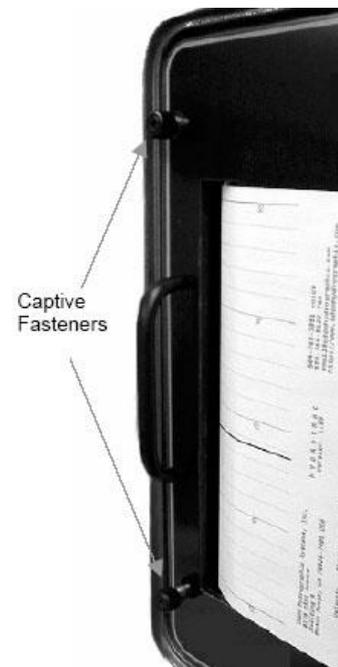

Fig. 3-5 Panel Release
- C. Open the chart panel by unscrewing the two captive fasteners at the left of the front panel (Fig. 3-5). Swing the panels completely open to the last stop point on the support arm.